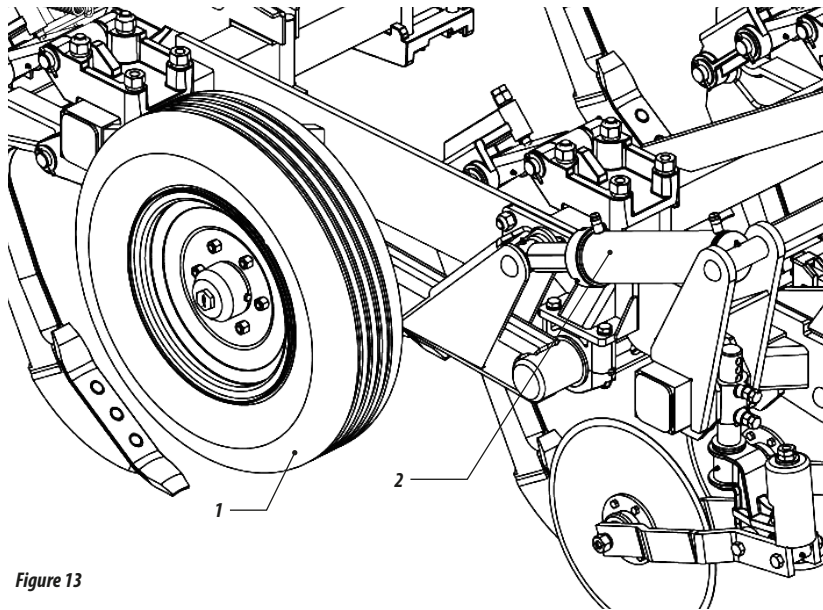

Figure 13
- 01 - The operational depth is regulated by the depth wheel setting (1) figure 13 that are controlled by the piston stroke (2).